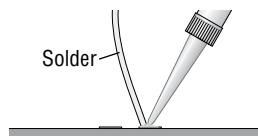

Figure 1.3.
- 1 With a soldering iron and 60/40 or 63/37 eutectic-type solder, melt just enough solder onto one pad to create a small mound (Figure 1.3).